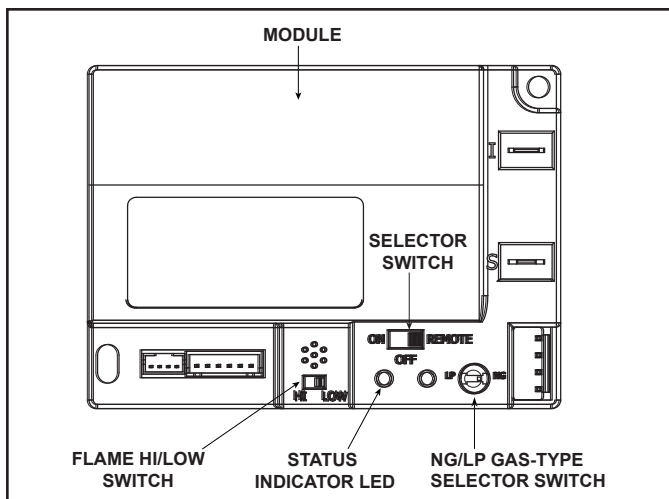

Figure 3.5 Control Module
2. Locate the battery tray and insert four AA cell batteries. Battery polarity must be correct or module damage will occur. See Figure 3.5. A complete wiring diagram is included in the Electrical section of the appliance Installation Manual.
- Slide the ON/REMOTE/OFF selector switch to the ON position. See Figure 3.5.
1. The control module has an ON/OFF/REMOTE selector switch that must be set. See Figure 3.5.
2. If using a wired wall switch with the module in REMOTE mode, the flame output can be adjusted with the HI/LO selector switch on the module. See Figure 3.5. Note that the flame HI/LO selector switch will become inactive once an optional remote control (RC200) is programmed to the control module. Note that the control module will always ignite the fireplace on HI and remain so for the initial 10 seconds of operation. If the HI/LO is switched to the LO position, the flame output will automatically drop to the lowest setting after the flame has been established for 10 sec. After this 10 second period, the flame can be adjusted from HI to LO with the switch.
- Locate the module selector switch. (See Figure 3.5).
- Wait five (5) minutes to allow possible accumulated gas to clear.